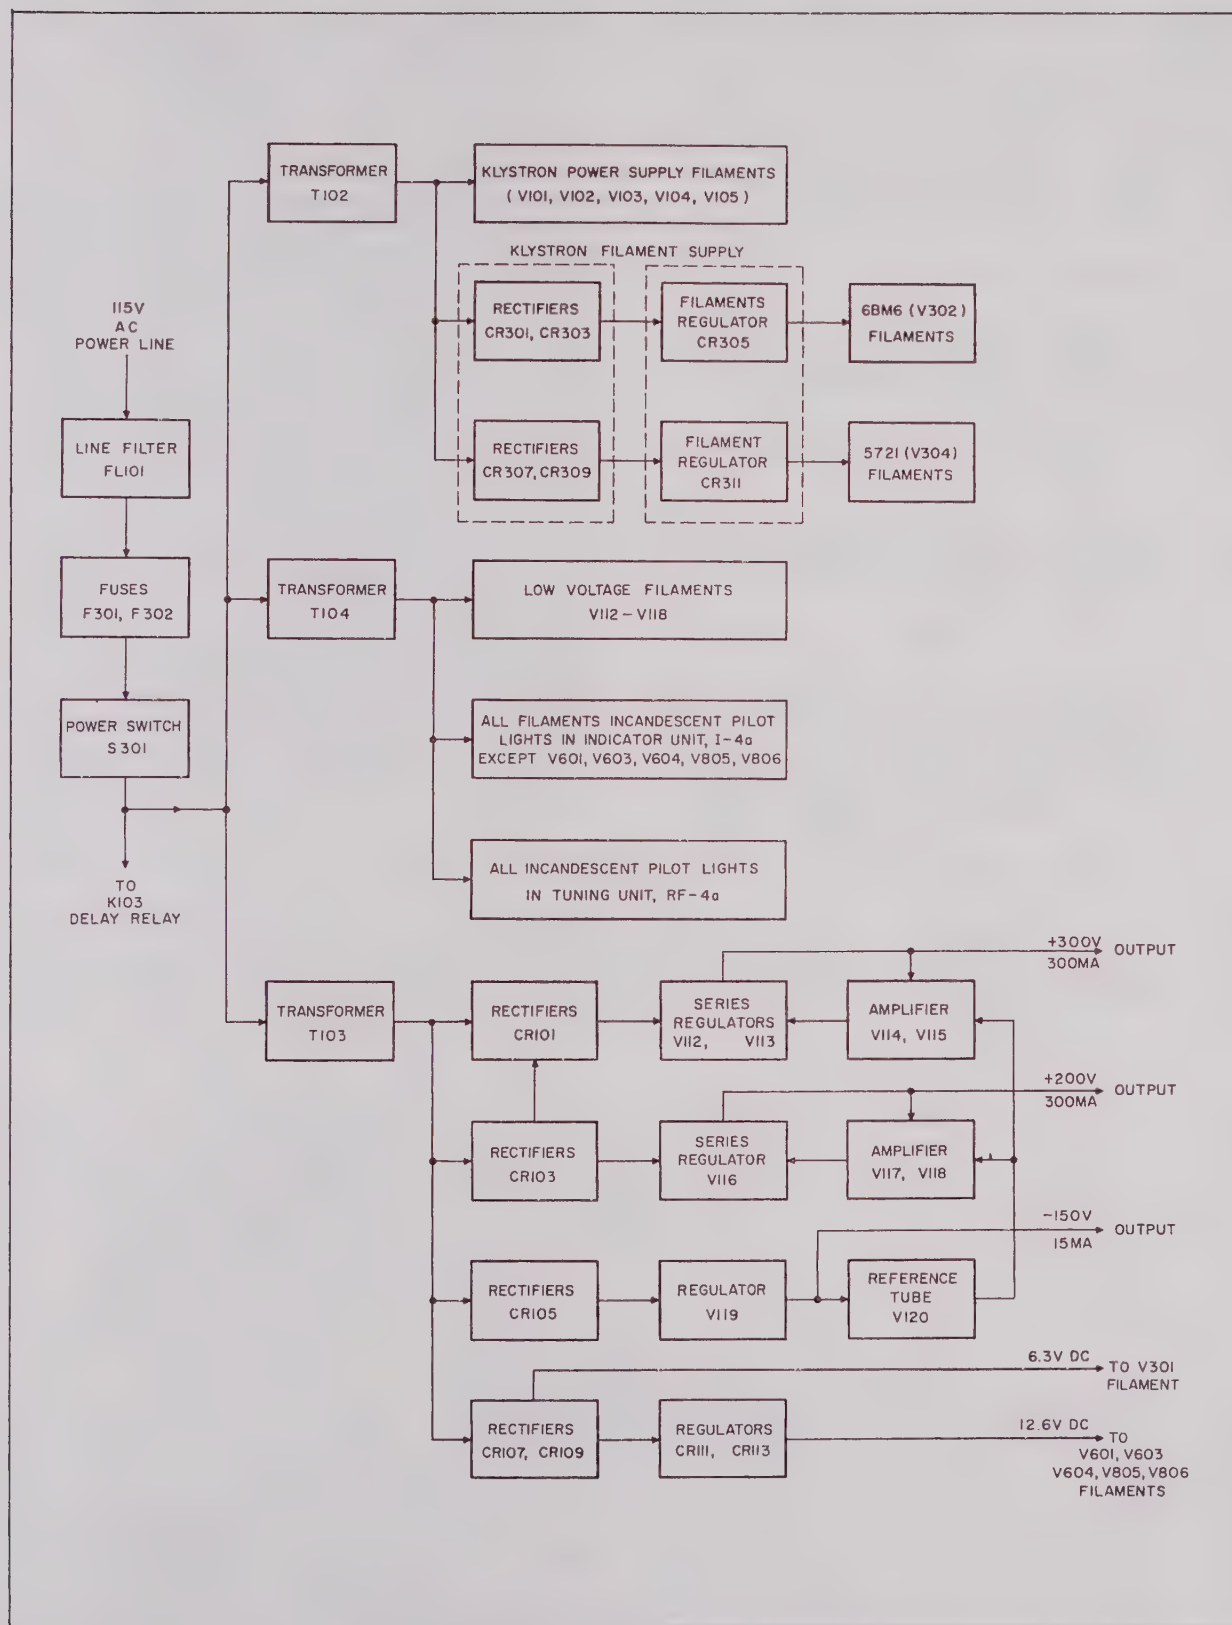

Figure IV-10. Block Diagram of SPA-4a Low Voltage and Filament Power Supplies.
Block diagrams of the power supplies are given in Figs. IV-10 and IV-11. The schematic circuit diagram drawing number is P6-15225-3/3.
a. LOW-VOLTAGE POWER SUPPLIES. (Fig. IV-10).